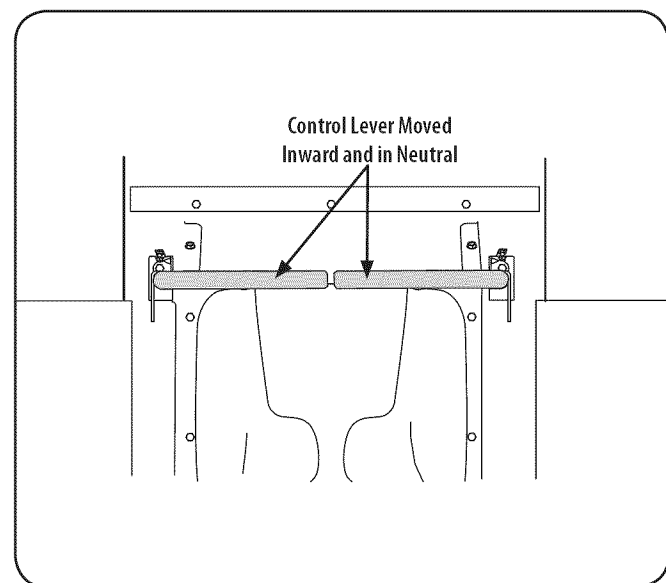

Figure 1
2. Move the RH and LH drive control levers inward in the neutral position. Refer to Figure 1.